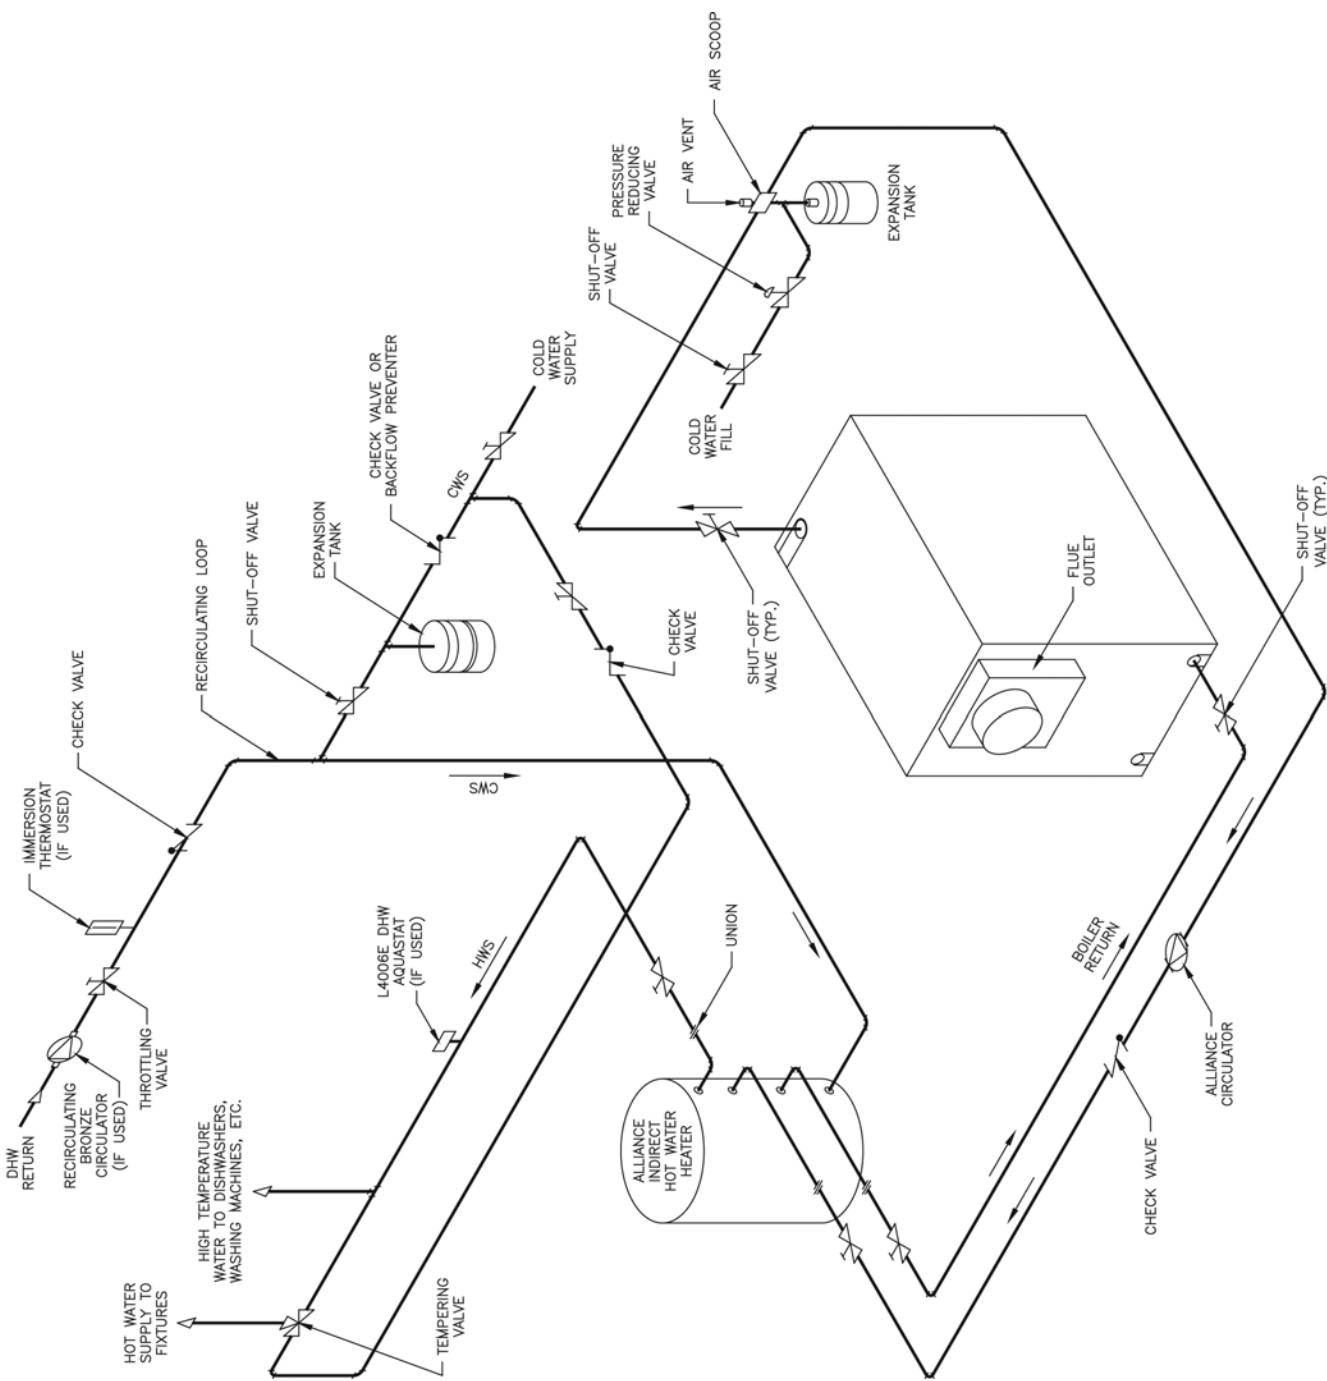

Figure 37c: DHW Generation with Indirect Water Heater
3. Hot Water Boiler/Indirect Water Heater - The use of indirect water heaters for domestic hot water generation is common and somewhat advantageous over tankless coils alone, since they also provide DHW storage. A tempering valve and recirculating pump are again recommended for a dual temperature system, to provide a constant temperature to the fixtures without waiting for cooler water to warm up. Figure 37c shows a typical indirect heater piping application with no space heating. Indirect pump flow rates are calculated based on a 20°F ΔT.